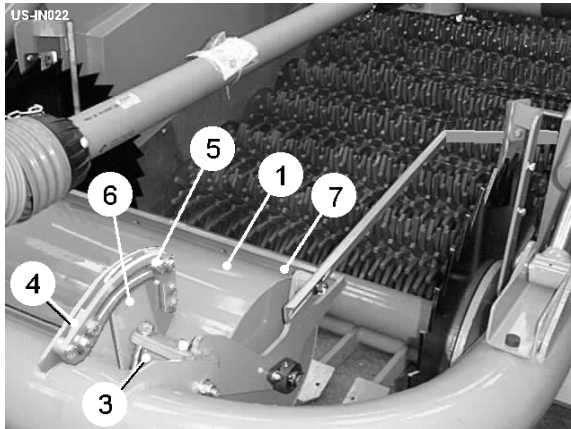
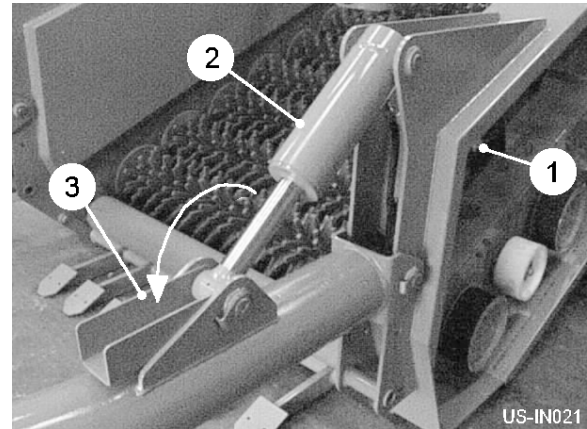

Fig 6
Fig 7
The machine is fitted with an automatic depth control system which ensures an even depth of soil in the finished bed. The depth roller (item 1, fig 6) runs on top of the preformed bed following the contours. The depth roller is linked to a depth sensor (item 1, fig 7) and via the hydraulic valve bank actuates the depth rams (item 2, fig 7). A depth indicator is fitted to the RH depth ram giving the operator a visual indication of the action of the sensing system. The ram stop brackets (item 3, fig 7) must be set in the position shown before commencing work.
The depth roller frame pivots on rubber torsion mountings (item 3, fig 6). By adjusting these mountings it is possible to adjust the amount of pressure the roller exerts on the soil. The pressure setting needs to be made with the machine in work so that the relative working position of the roller and shares is correct.
1. Release the front and rear quadrant stops (item 4 & 5, fig 6) on both sides of the roller unit.
3. Slide the front stops (item 4, fig 6) up against front edge of the quadrant arms (item 6, fig 6) and lightly secure.
4. Raise the machine slightly, causing the quadrant arms (item 6, fig 6) to rotate backwards away from the front stops (item 4, fig 6), and then reposition the front stops up against the quadrant arms and secure fully. The higher the machine is raised prior to repositioning the front stops, the greater spring pressure will be.
5. Lower the machine back into work and set the rear stops (item 5, fig 6) approximately 15mm away from the rear of the quadrant arms (item 6, fig 6). This gap allows the depth roller to drop slightly, maintaining digging depth, when the tractor rides out of the bed onto the headland.
The scrapers (item 7, fig 6) should be set as close to the roller as possible without fouling it.
*Before transporting the machine on the road, reset the ram stop brackets (item 3, fig 7).*